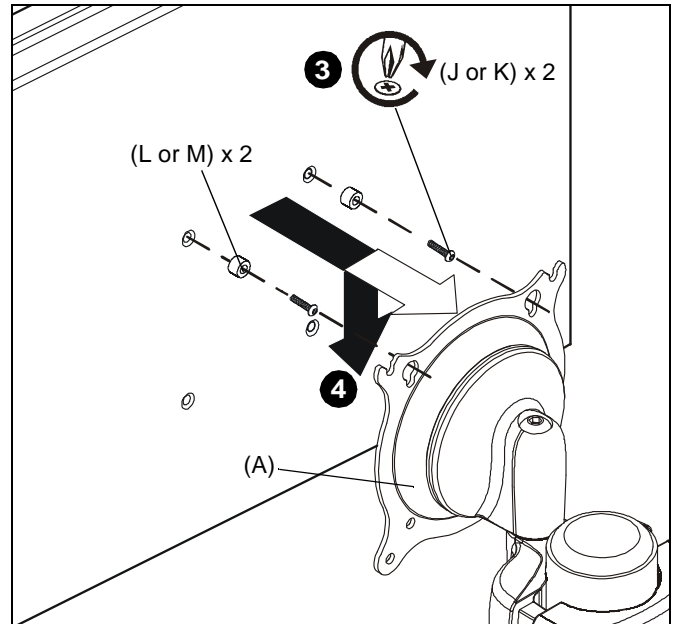

Figure 6
4. Pick up and align display so that screws (J or K) (installed on the back of the display in the previous step) fit into the mounting holes on the faceplate. Lower the display firmly into place. (See Figure 6)
3. Using Phillips screwdriver, carefully install two selected screws (J or K) through selected spacers (L or M) into the *upper* mounting holes on the display. Thread screws completely into display, then back out 3 complete turns. (See Figure 6)